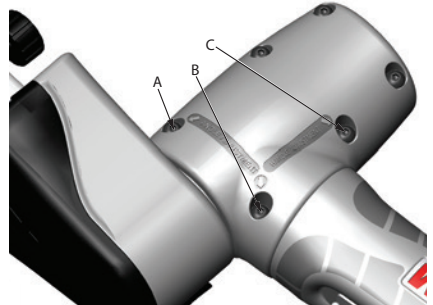

Fig. 4
2. Loosen M4 cap screws "A" and "B": (See Fig. 4.)
2. Loosen M4 cap screws "B" and "C": (See Fig. 4.)